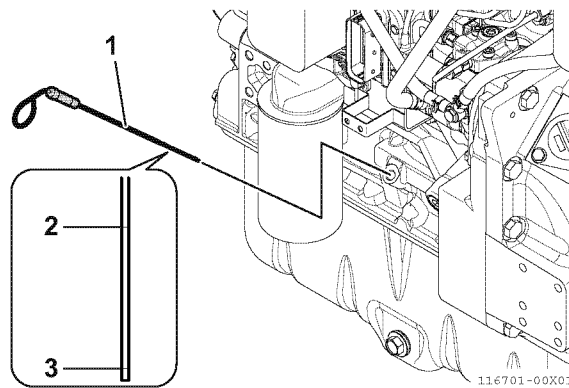

Fig.30-22
2. Remove the dipstick (1, Fig.30-22) and wipe it with a clean cloth.
4. Remove the dipstick again. The oil level should be between the upper (2, Fig.30-22) and lower (3, Fig.30-22) lines on the dipstick.